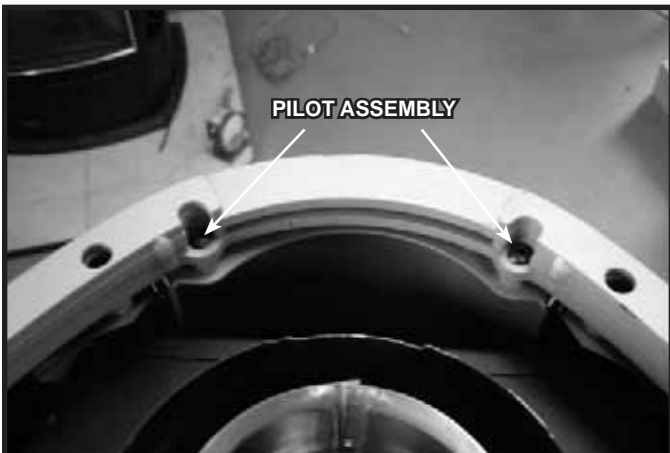

Figure 8.9
3. Remove and retain the Allen head screws that hold the solid back panel in place. (Figure 8.9) Remove and discard the solid back panel.